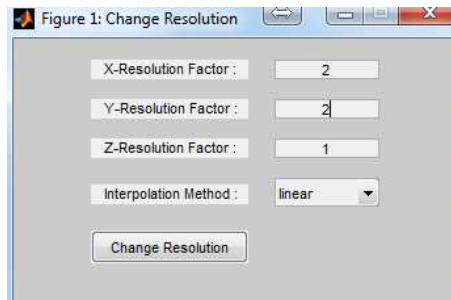

Figure 6.14: Interpolation Window. An example is shown to double spatial resolution in x and y direction by using a linear interpolation.
-  : Resample current matrix by using chosen interpolation method (Figure 6.14). The user can specify sampling factors in x, y and z direction for 3D matrix.